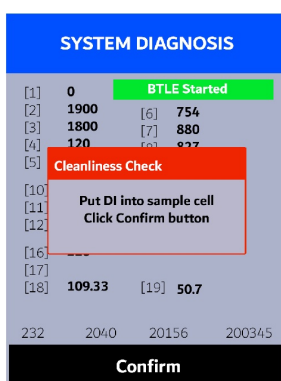

Figure 51.
5. Press **Cleanliness** (**<**). An instruction prompt appears to ask the user to put DI water into the main module sample cell (Figure 51).